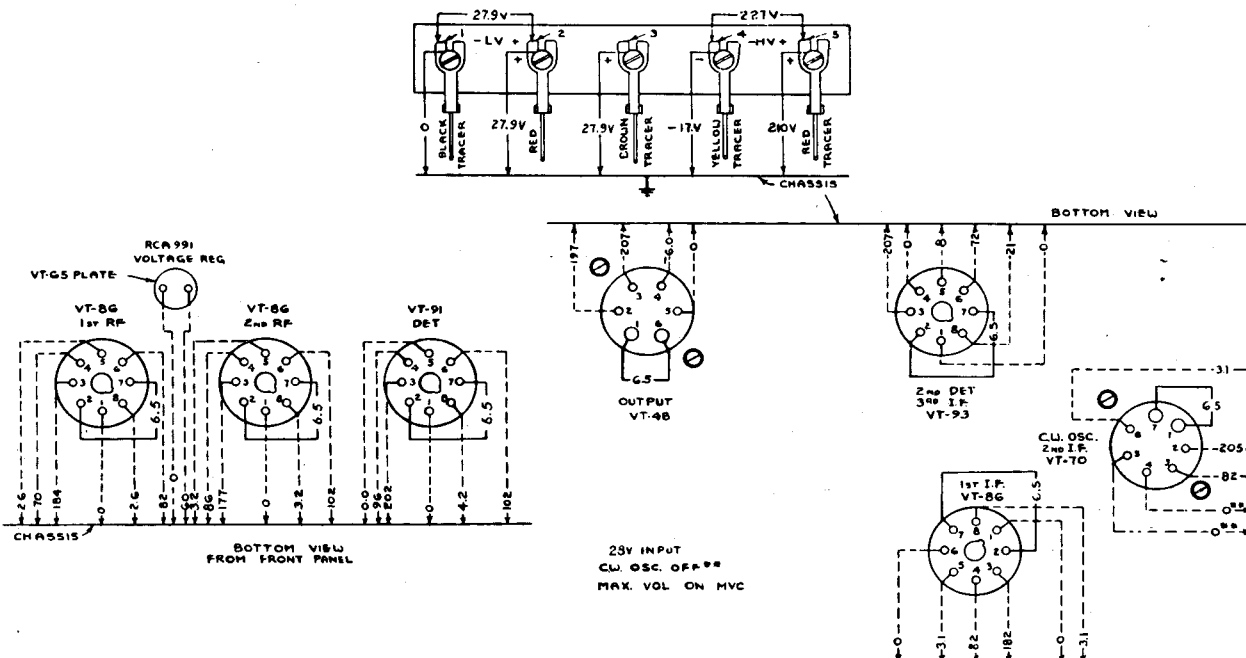

Figure 16 — Radio Receiver BC-348-(\*)
(1) CHECK OF DYNAMOTOR VOLTAGES.—When all signals on all bands are weak or no signals are heard when known to be present, follow the procedure shown in the chart. The voltages checked at the dynamotor terminal board should closely approximate the values shown in figure 16. Conditions of measurement are as follows:
(3) CHECK OF SOCKET VOLTAGES.—If tubes check satisfactorily, or if, after replacing with tubes known to be good, the sensitivity is still low, proceed to check all tube socket voltages with Test Set I-56-A as outlined in paragraph 14f. The average socket voltages are given in figure 16.
(4) CHECK CIRCUIT WIRING AND COMPONENTS.—If the tube socket voltages do not approximate the values shown in figure 16, check the associated circuits and components for grounds, shorts and similar defects.
(5) TEST OF AUDIO-FREQUENCY AMPLIFIER.—Having checked all socket voltages and found the values to be correct, proceed to the test of the audio frequency amplifier. This can be checked by capacitively coupling a 400-cycle voltage of approximately 2 volts rms between ground and the detector diode socket prong using a capacitor of 0.5 mfd. As an alternative, a modulated 915-kc signal of 2 volts may be coupled to this point and ground. Proper functioning of the audio amplifier will be indicated by an output well over 10 milliwatts for the 2-volt audio input or approximately 1 milliwatt output for 915-kc input. Check circuits, wiring and components if this order of response is not obtained.
(6) TEST OF I-F AMPLIFIER.—Following a satisfactory test of the audio amplifier, check the inter-